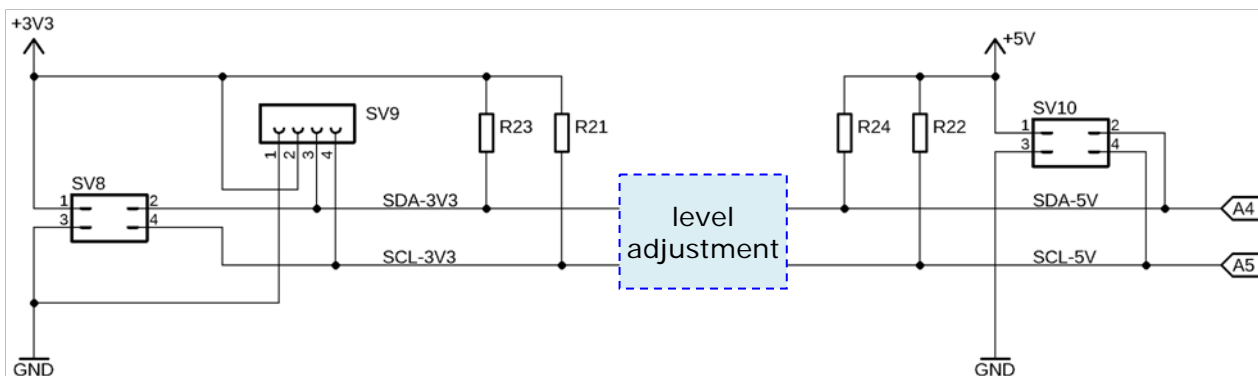

Figure 20: The TWI (=I²C)-Interface on the MCCAB Training Board
Via the pin headers SV8, SV9 and SV10 (arrows (15), (16) and (14) in Figure 1) the user can establish a serial I²C connection (I²C = Inter-Integrated Circuit) of the microcontroller on the training board with external I²C modules. In the data sheet of the AVR microcontroller ATmega328P the I²C interface is called TWI (Two Wire Interface). The wiring of the three connectors is shown in Figure 20.
The I²C interface consists only of the two bidirectional lines SDA (Serial Data) and SCL (Serial CLock). For better distinction, in Figure 20 the lines SDA and SCL are marked with the suffix 5V before the level adjustment stage and with the suffix 3V3 after the level adjustment stage.